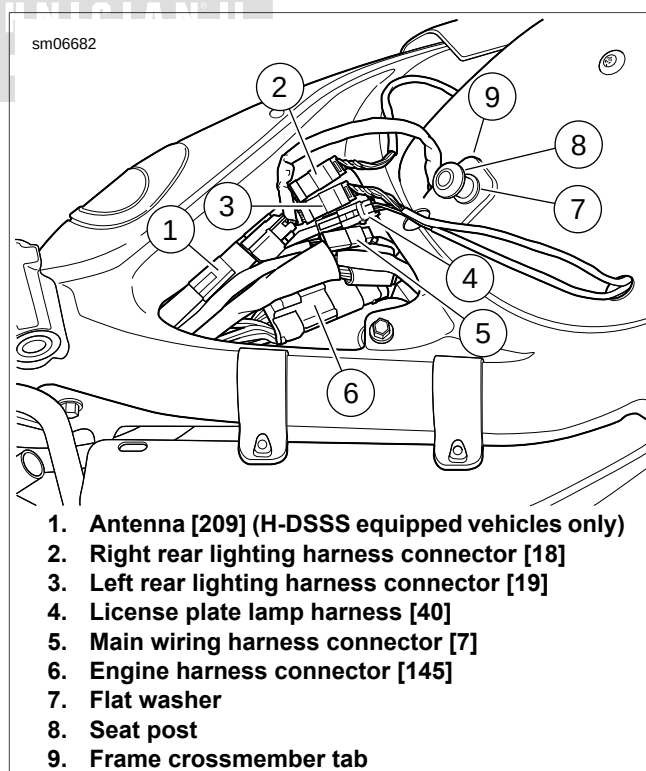
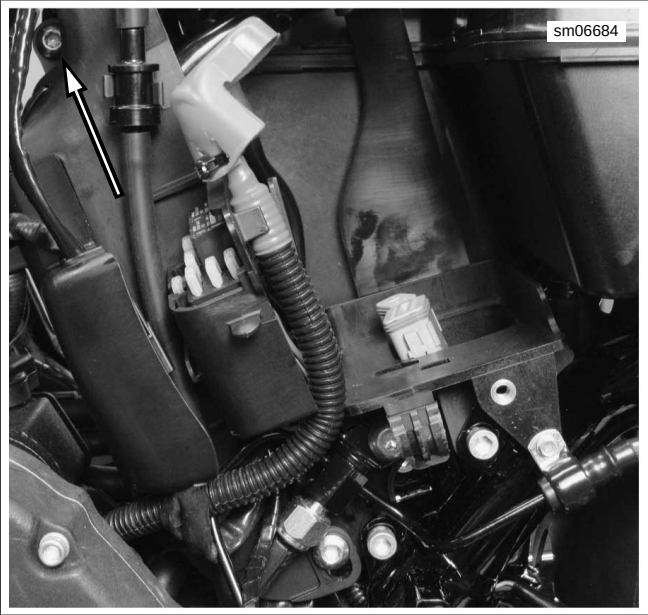
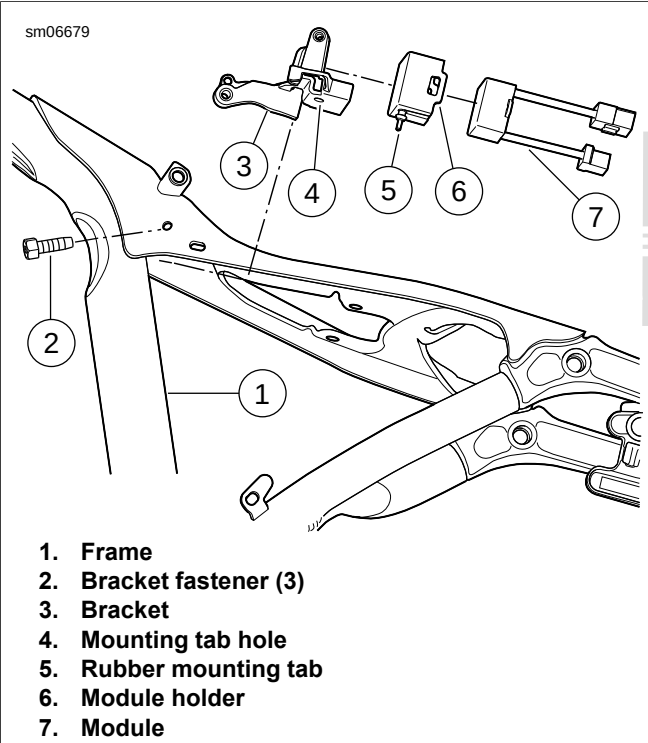

Figure 6-83. Rear Lighting Harness Connectors: XL 883N, XL 1200X/V
Figure 6-84. ECM Caddy Fastener
Figure 6-85. Converter Module
3. See Figure 6-83. Unplug the following harness connectors:
- a. Antenna [209] (1) (H-DSSS equipped motorcycles only)
- b. Right rear lighting harness [18] (2)
- c. Left rear lighting harness [19] (3)
- d. License plate lamp harness [40] (4)
- e. Main wiring harness [7] (5)
- f. Engine harness connector [145] (6)
4. See Figure 6-84. Remove ECM caddy fastener.
8. See Figure 6-85. Remove bracket fasteners (2).
9. Remove bracket (3) with converter module (7).
11. Remove rubber mounting tab (5) from mounting tab hole (4) to release module from bracket.
2. See Figure 6-85. Install module (7) and module holder (6) into bracket (3) by pulling rubber mounting tab (5) into mounting tab hole (4).
4. Install but do not tighten bracket fasteners (2).
5. See Figure 6-84. Install ECM caddy fastener. Tighten to 72-96 in-lbs (8.1-10.8 Nm).
9. See Figure 6-83. Plug in the following harness connectors:
- a. Antenna [209] (1)